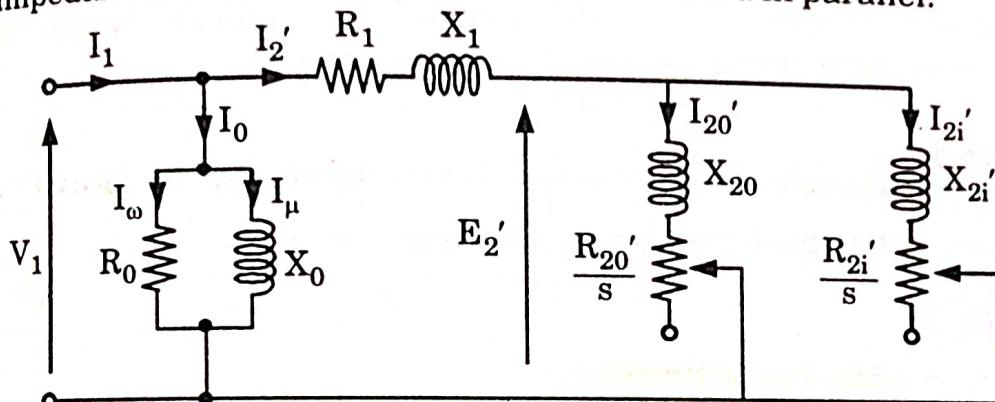
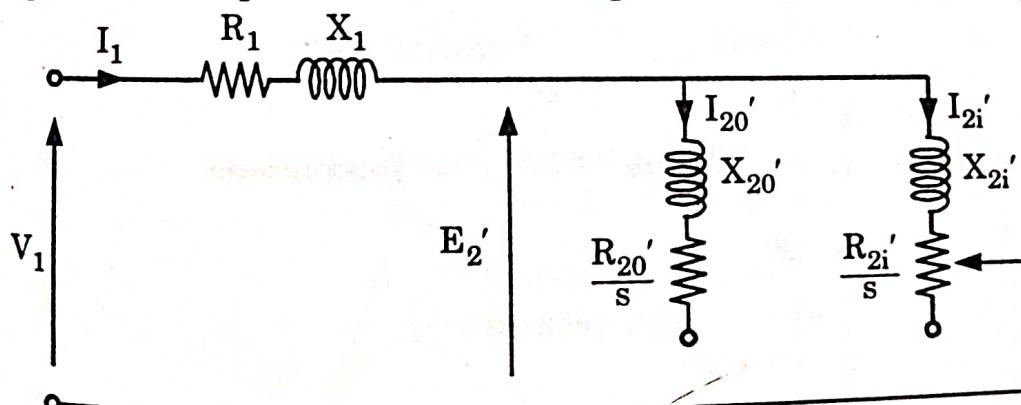

Fig. 4.7.1. Equivalent circuit of a double-cage induction motor.
Fig. 4.7.2. Approximate equivalent circuit of a double-cage induction motor with magnetising current neglected.
3. The equivalent circuit of the double-cage induction motor at slip  $s$  is shown in Fig. 4.7.1. If the shunt branches containing  $R_o$  and  $X_o$  are neglected, the equivalent circuit is simplified to that shown in Fig. 4.7.2.